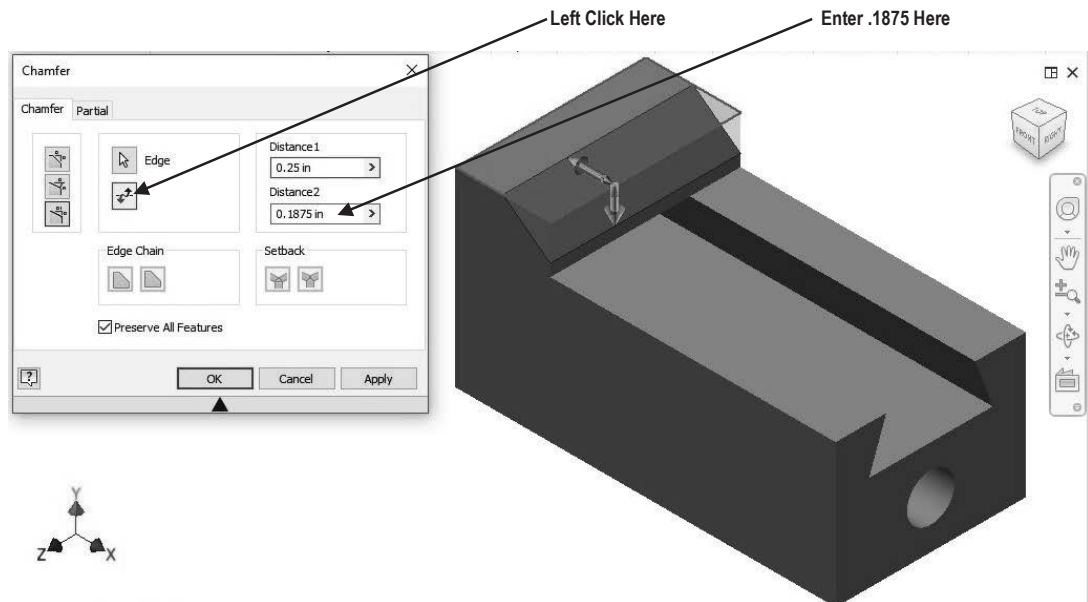

Figure 7
9. Move the cursor to Distance 2 in the dialog box and highlight the text. Enter **.1875** in the dialog box. To flip the direction of the chamfer simply left click on the Flip icon as shown in Figure 7.